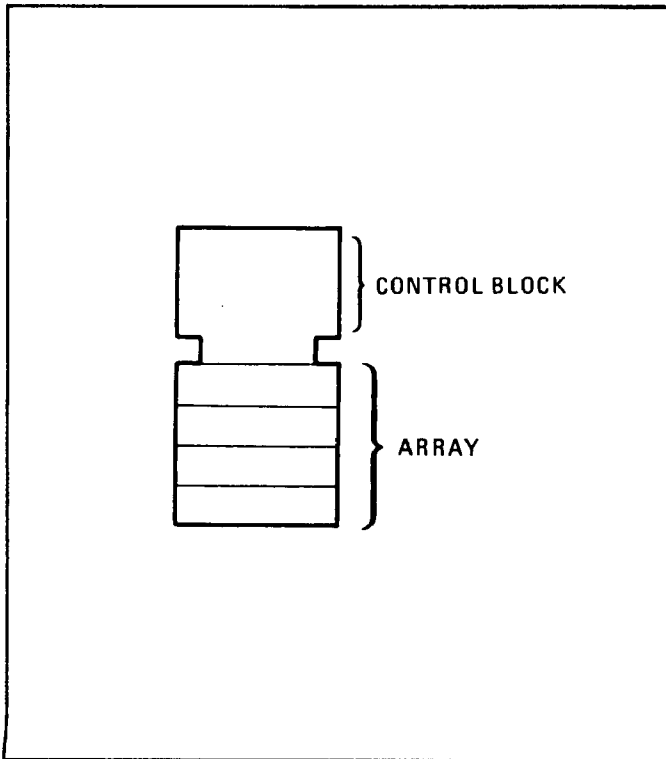
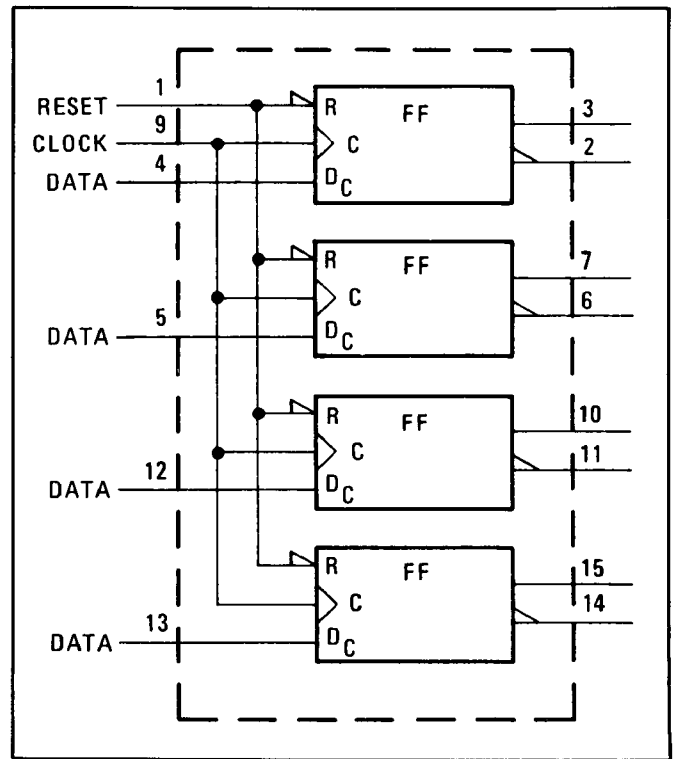
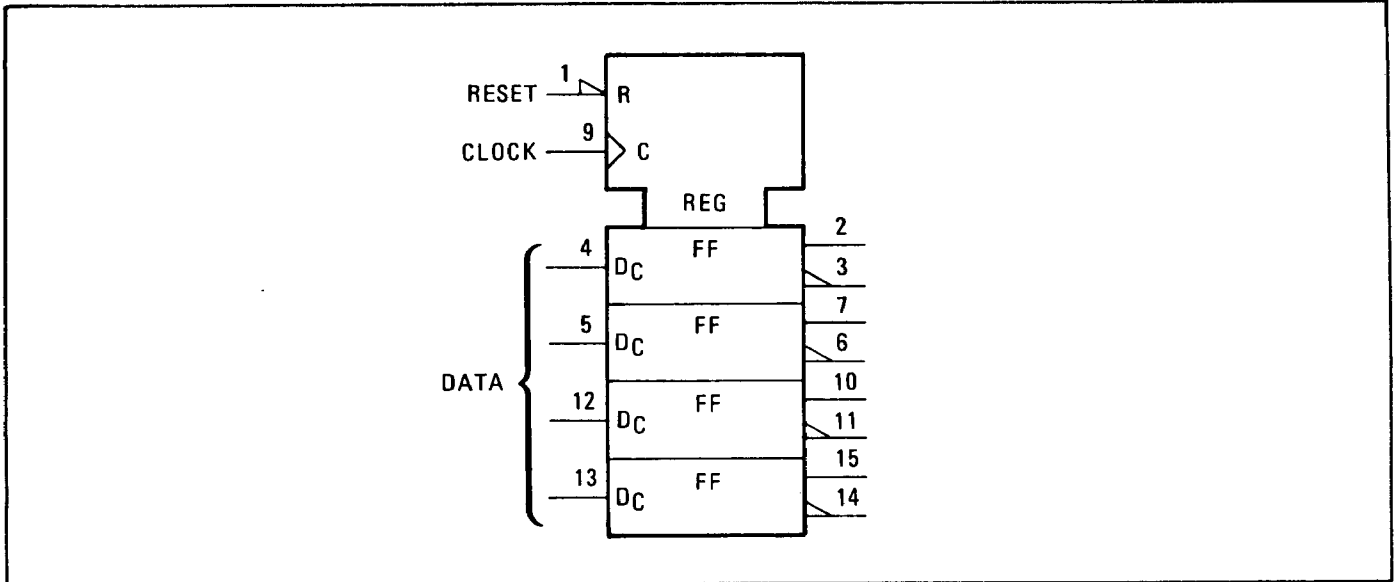

Figure 8-107. Common Control Block
Figure 8-108. Quad D-Type Latch (Individual)
Figure 8-109. Quad D-Type Latch (Combined)
**Common Control Block.** The Control block is used in conjunction with an array of related symbols in order to group common logic lines. Figure 8-107 shows how the Control block is usually represented. Figure 8-108 shows a quad D-type flip flop with reset. This can be redrawn as shown in Figure 8-109. Note that the more complex representation shown in Figure 8-108 can be used when the flip flops are functionally scattered around the schematic (i.e., not used as a quad unit).